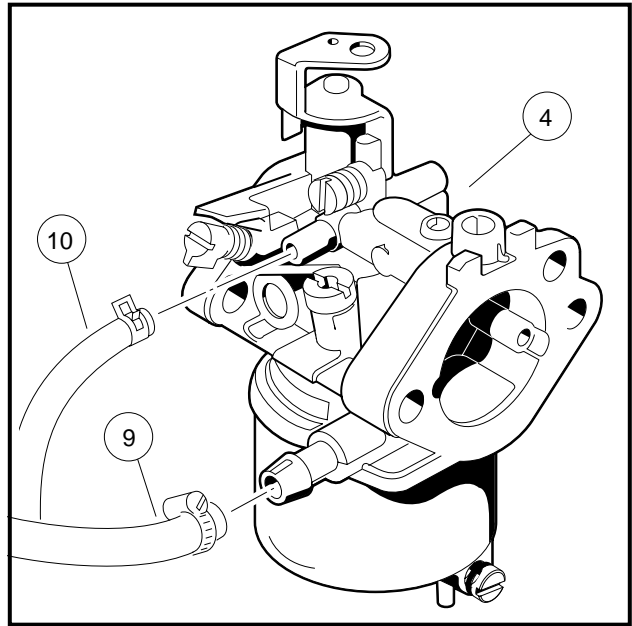

Figure 13-7 Carburetor, Fuel Line and Vent Line
4. Disconnect the fuel line (9) and vent tube (10) from the carburetor (4) (**Figure 13-7, Page 13-9**).